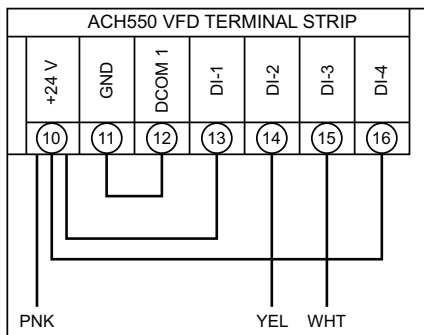

Fig. 29 — ACH550 VFD Wiring
- For ACH550 VFDs the voltage is sourced from the VFD at its terminal 10 (+24 V). 2-Speed Indoor Fan Motor speed inputs are received at terminals 14 (DI-2) for low speed (40 Hz) motor operation and 13 (DI-3) for high speed (60 Hz) motor operation. See Table 12 and Fig. 29 (on page 21).